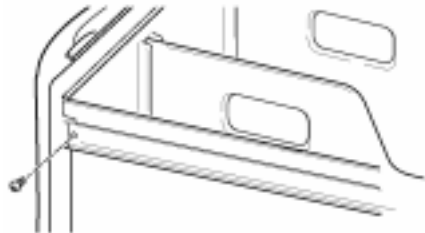

Fig. 2-8
11. Pull both drawer slides out and reassemble the drawer to the drawer slides with the two (2) Phillips head screws. (Fig. 2-8) Use of the two (2) dividers is optional. Close the drawer.